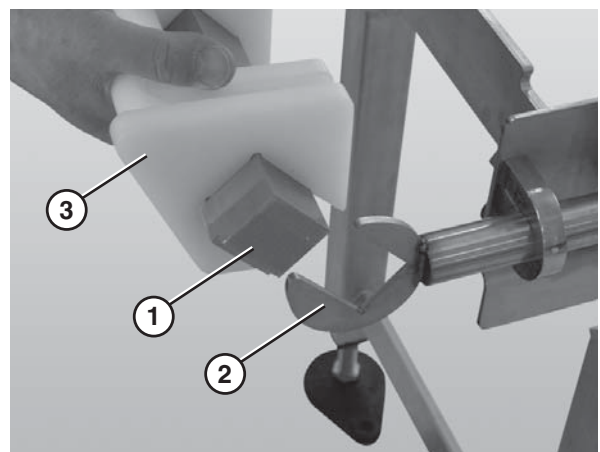

Figure 67
4. After all tracking pucks (Figure 67, item 3) are installed, slide the nose bar drive or transfer post (Figure 67, item 1) into the nose bar drive weldment or idler hands (Figure 67, item 2).